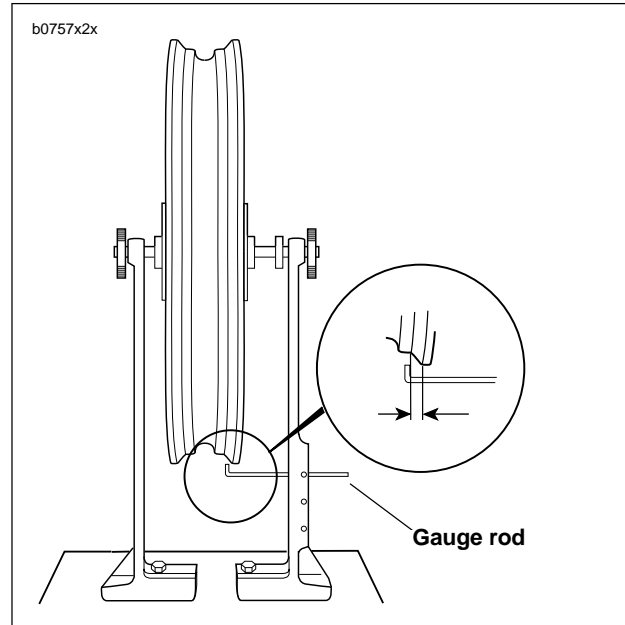

Figure 2-25. Checking Cast Rim Lateral Runout Using Wheel Truing and Balancing Stand (HD-99500-80)
1. See Figure 2-25. Figure 2-25. Install truing arbor in wheel hub and place wheel in WHEEL TRUING AND BALANCING STAND (Part No. HD-99500-80).